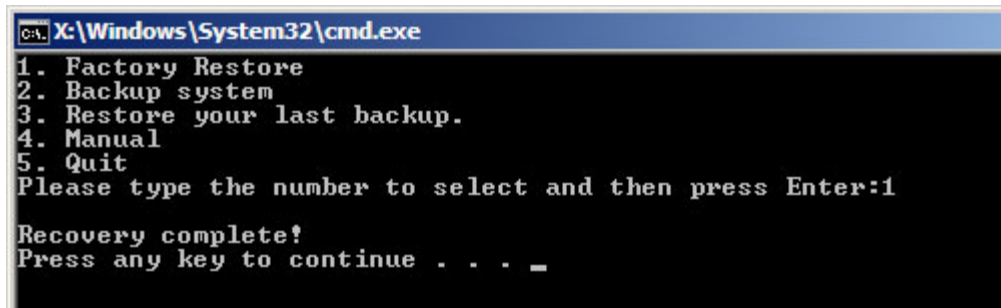

Figure A-35: Recovery Complete Window
**Step 3:** The screen is shown as in **Figure A-35** when completed. Press any key to reboot the system.